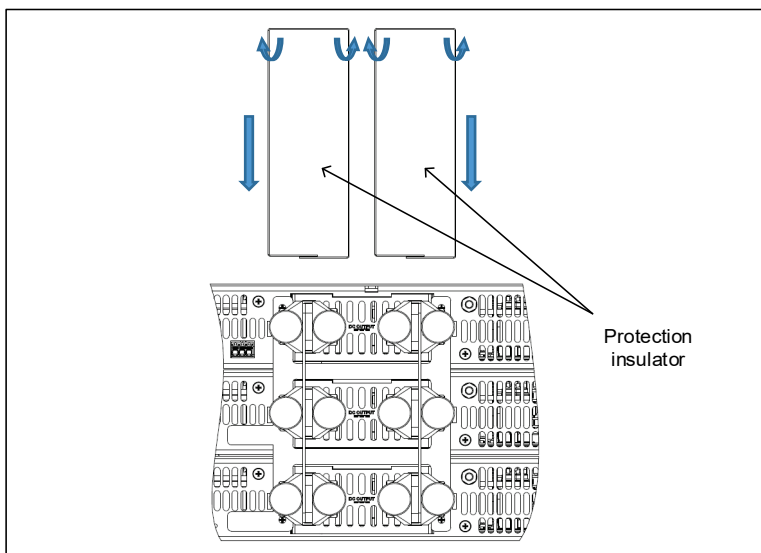

Figure 4-23: Assembly of 10V Wires Protection Insulator
4. Assemble the protection insulators prior assembling the Bus bar cover. The protection insulators are flexible, open in its bottom side. Open the insulators and cover the bus bars by sliding over the bus bars from top to bottom, as shown in Figure 4-23 (15kW is shown, it applies to 10kW as well).